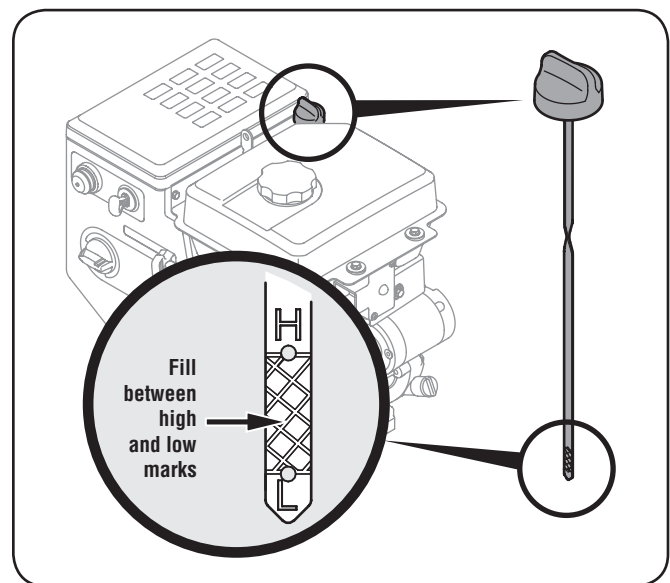

Figure 3-2
- Keep oil level between high (H) and low (L) marks on dipstick. See Fig. 3-2.
1. Remove the oil filler cap/dipstick and wipe the dipstick clean. See Fig. 3-2.
3. Remove the oil filler cap/dipstick. If the level is low, slowly add oil until oil level registers between high (H) and low (L), Fig. 3-2.
4. Loosen and remove the oil fill cap dipstick from the oil filler tube. Note the oil level, if oil reading on the dipstick is below the low (L) mark, slowly add oil to reach the high (H) mark. See Fig. 3-2 or 3-3, whichever is applicable.